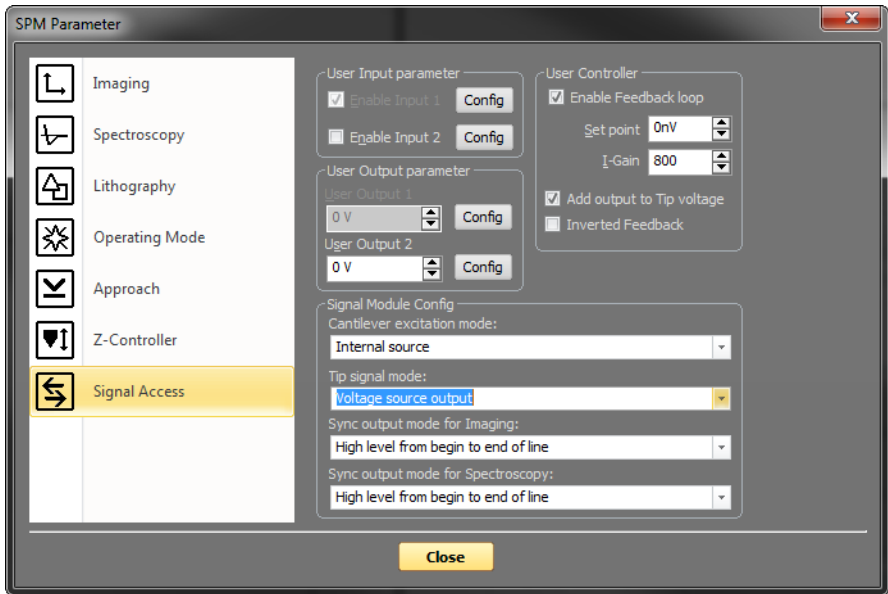

Figure 8-10: Activating Voltage Source Output
- ❶ In the "Hardware" group of the "Settings" tab, select the "Signal Access" button:
- 2 In the SPM Parameter dialog, which now opens with the Signal Access page, select “Voltage Source Output” as Tip Signal mode in the Signal Module Config section (see Figure 8-10: Activating Voltage Source Output).
- ① In the Mode Properties section of the Imaging window, make sure that “Tip Voltage” is set to 0 V.
- ② Set all Signal Access parameters and settings to the ones shown in *Figure 8-10: Activating Voltage Source Output* (page 103).
- ④ In the User Controller section of Signal Access page of the SPM Parameters dialog, check or uncheck the “Inverted Feedback” option (see also *Figure 8-10: Activating Voltage Source Output* (page 103)).